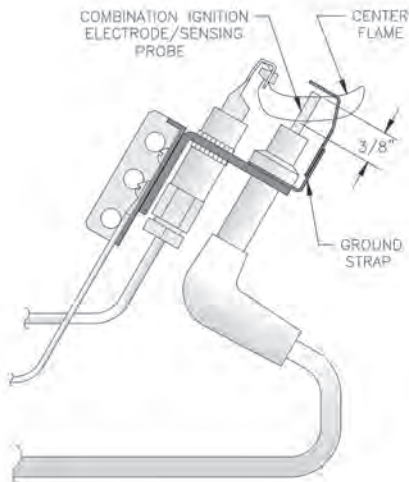

Figure 11: Pilot Burner Flame, Intermittent Ignition System (EI), Honeywell Q348 Pilot
- c. Intermittent Ignition (EI), Models IN3_I through IN12_I. See Figure 11. The pilot burner produces three (3) flames. The center flame should be steady, medium hard blue enveloping 3/8 to 1/2 inch of sensing probe. If flames are yellow and lazy, follow instructions TO TURN OFF GAS TO APPLIANCE (see Figure 6 for Models IN3_I through IN11_I or Figure 7 for Model IN12_I) and contact a qualified service agency.